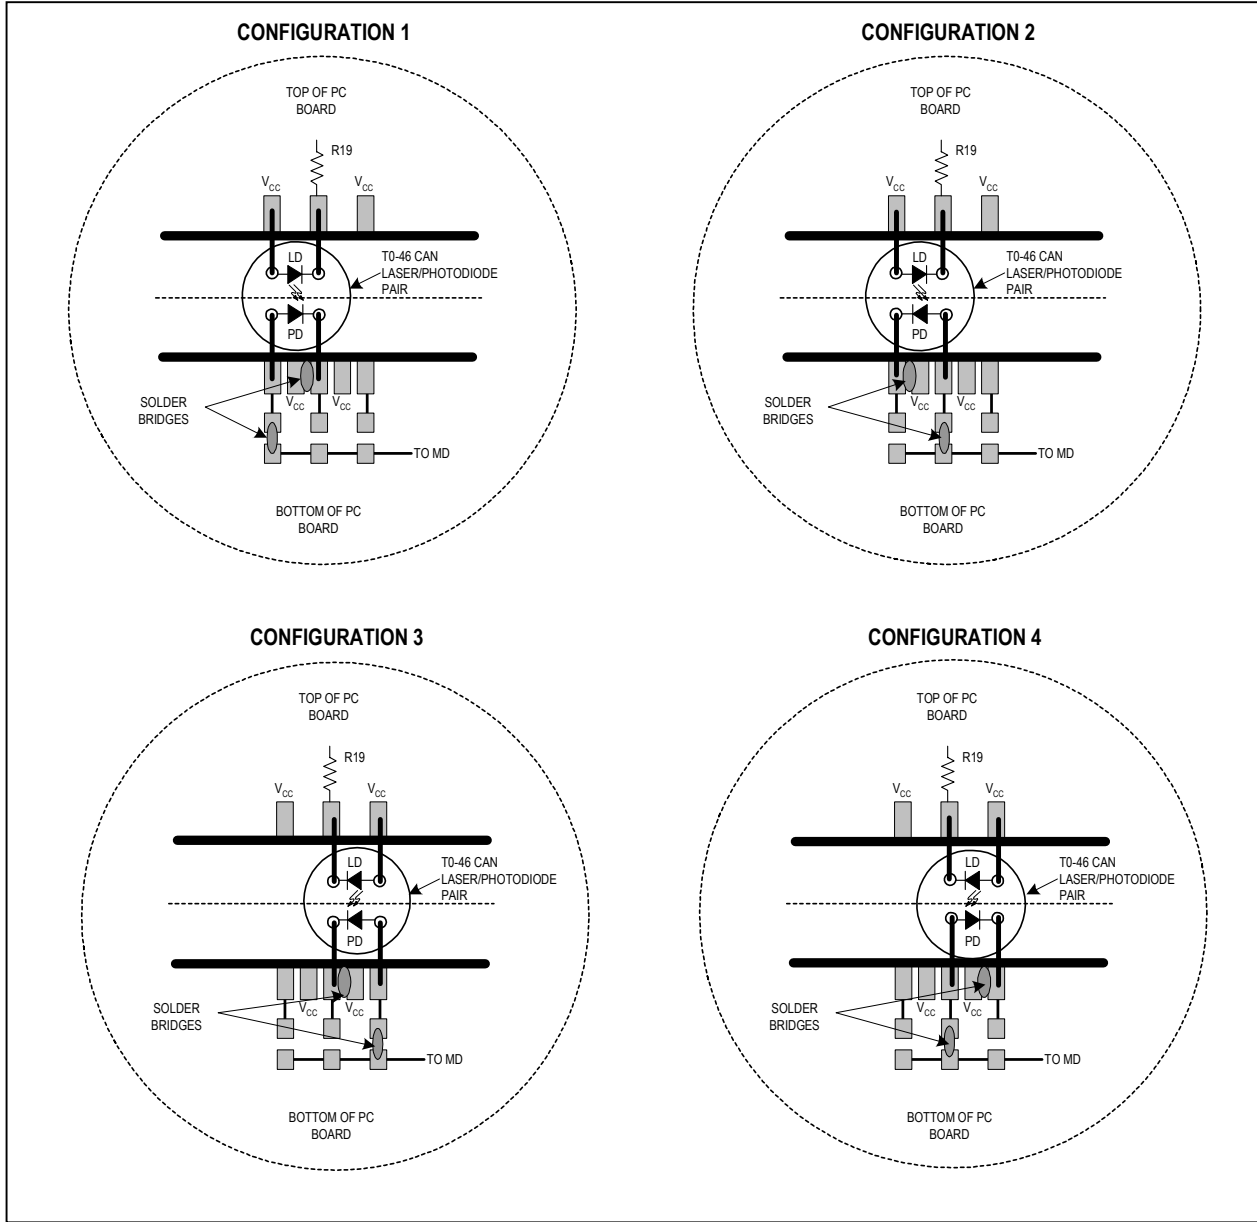

Figure 1. Attachment of Laser Diode/Monitor Diode to the MAX3646 EV Kit
- 4) The EV kit is designed to allow connection of a variety of possible laser/monitor diode pin configurations. Connect a TO-header style laser with monitor diode (Figure 1) as follows:
- Connect the monitor photodiode to two of the five pads on the bottom (solder) side of the PC board, directly below the laser diode pads. Connect the anode and cathode of the photodiode as shown in figure 1.